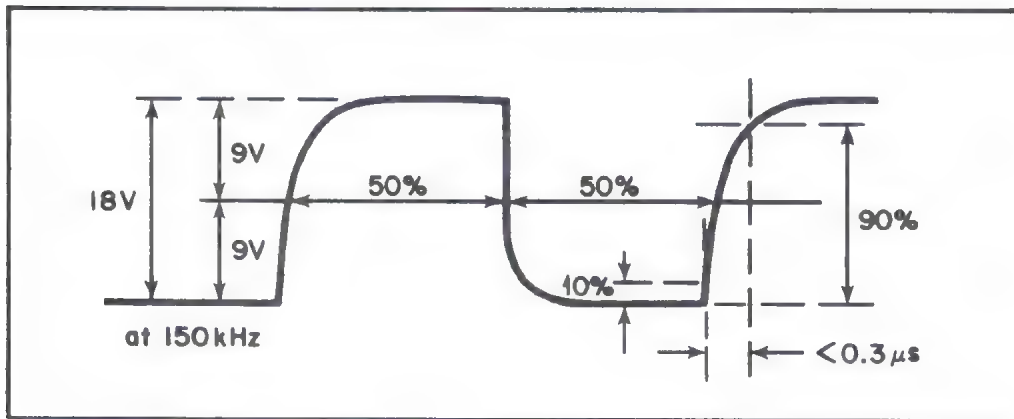

Figure V-3. HIGH FREQUENCY SYMMETRY
- (2) Plug the Mixer Board into the Extender Board and insert the Extender Board (Mixer Board attached) into the Mixer Board Socket. Turn the power on.
- (3) Trigger the oscilloscope from the Reference "IN/OUT" Jack. Then, with the oscilloscope DC coupled and using the probe, monitor the signal at the end of R765 which is furthest from the edge of the board. The observed signal should be a square wave at the tuned frequency. It should swing from +6 V to -12.5 V, and the duty factor should be 50% ( $\pm 1\%$ ).
- (4) Set the Mode Switch to "EXT." Then apply a 3 V peak-to-peak sine wave at 150 kHz to the Reference "IN/OUT" Jack. Observe that the symmetry and rise time of the monitored signal are as indicated in Figure V-3.